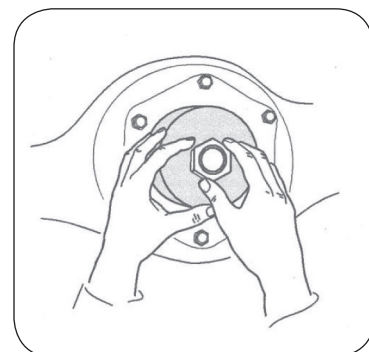

Figure 1
5. With clean hands, lightly lubricate the seal ID and OD, position SKF unitized pinion seal into pinion seal bore. Place the SKF universal pinion seal installation tool PT6000 over the seal. Use the pinion nut washer if available and hand tighten pinion nut until the tool rests against the seal. See Figure 1.